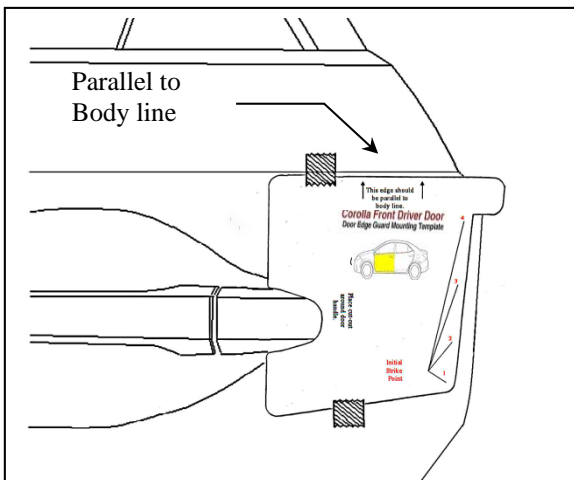

Fig. 1-3
- (1) If you will be using the paper templates, use scissors and carefully cut them out at this time.
- (2) Select the rear door template and fit the notch around the door handle. Adjust it as needed to ensure it is parallel to the body line directly above the template. If needed, tape it into place using painter’s masking tape (Fig 1-3).